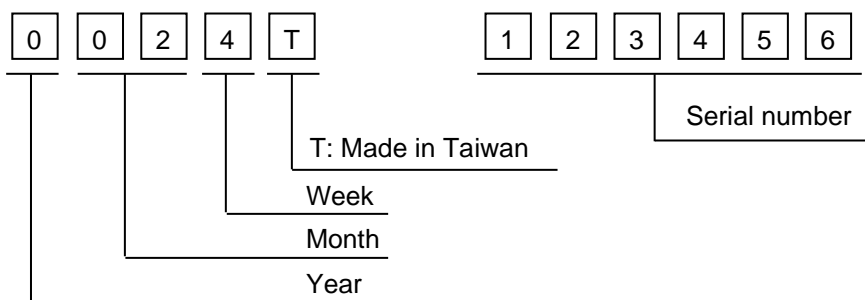

Fig. 14.1
- 1) The lot mark is showing in Fig.14.1. First 4 digits are used to represent production lot, T represented made in Taiwan, and the last 6 digits are the serial number.